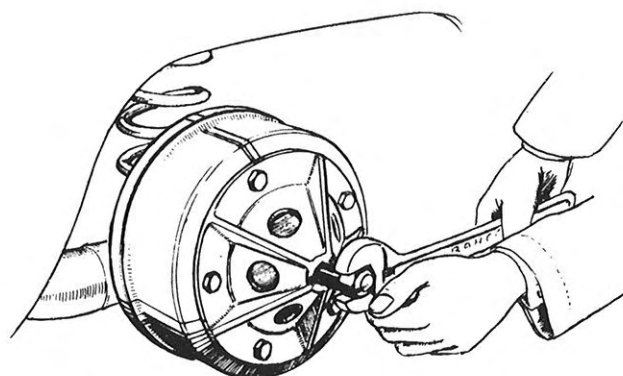

Fig. 19. Hub extractor
6. When removing a rear hub, check that the hand brake is released. Fit a hub extractor (tool Saab 92-3) as shown in Fig. 19, attaching it by means of the wheel bolts.